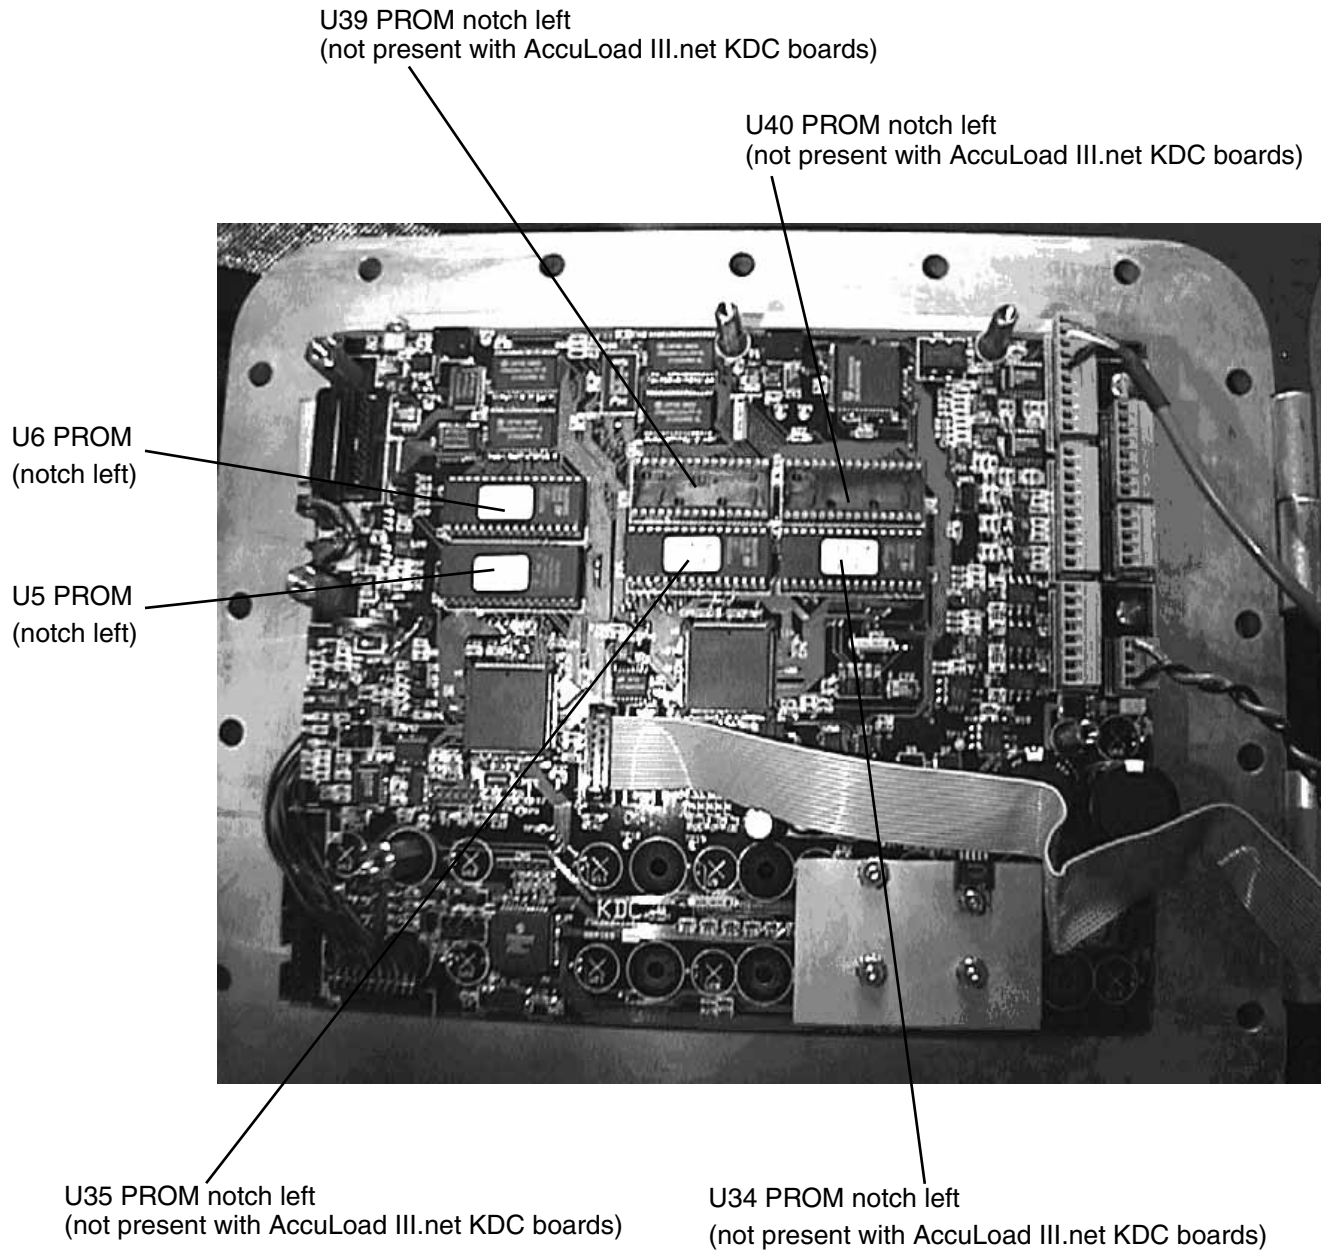
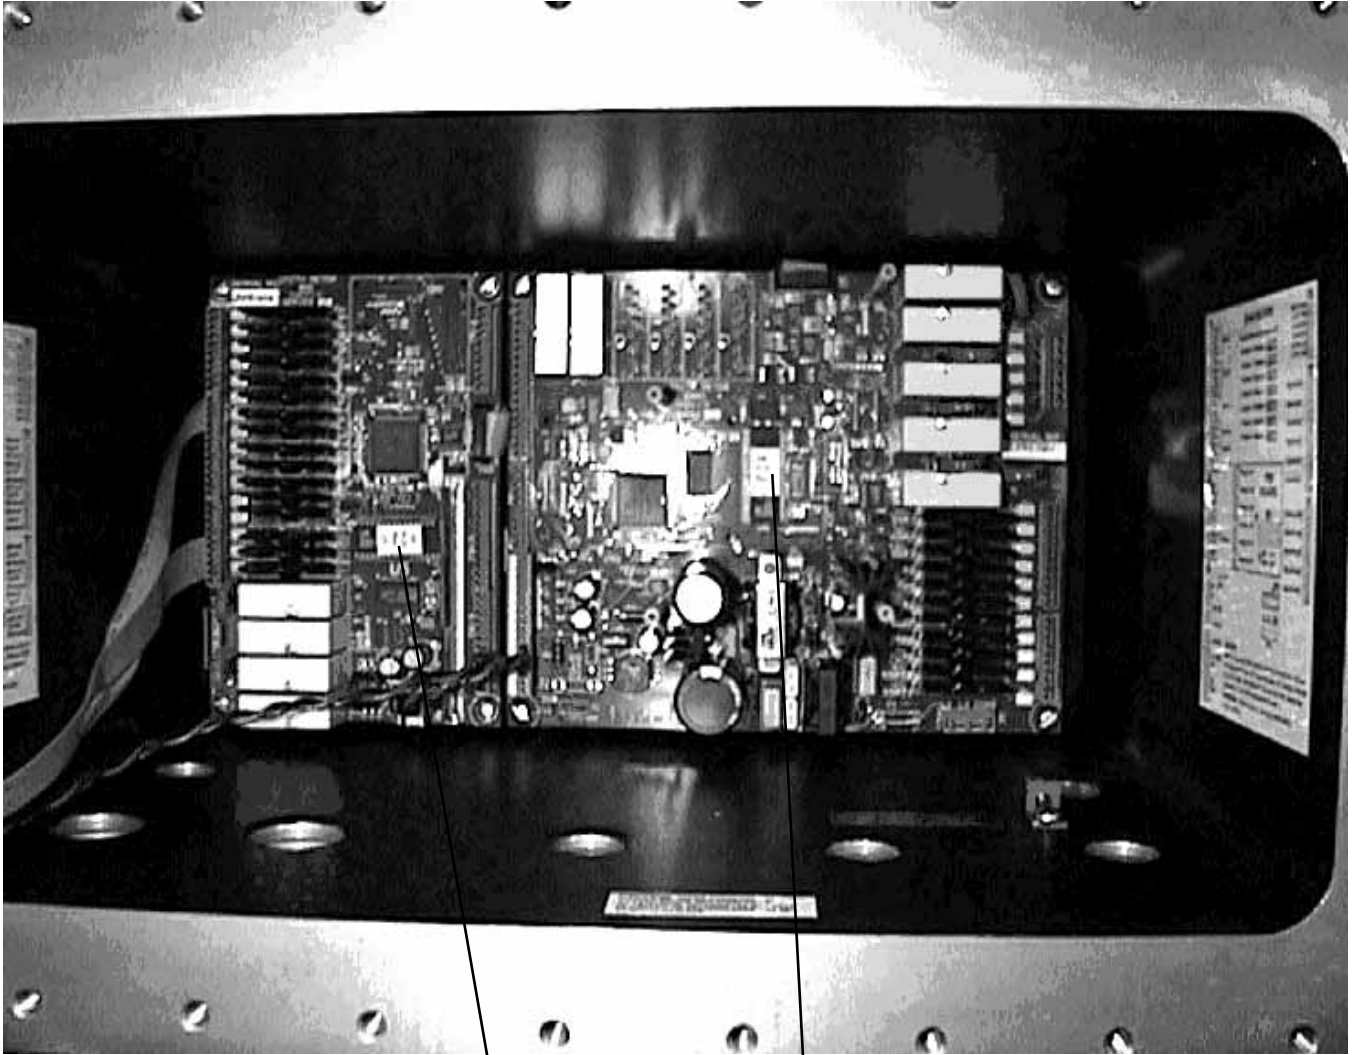

Figure 3. KDC PROMs
Figure 4. EAAI and BSE PROMs
7. Refer to Figure 3 for location of the PROMs on the KDC board and Figure 4 for the location of the PROM on the EAAI board and the BSE board (BSE board on ALIII-Q units only).
9. Install the new PROM in its proper location on the KDC board as shown by the PROM reference number (U5, U6, U34, U35, U39, and U40) on each PROM. (On the KDC.net there will be no U34, U40, U35, or U39 firmware prompts). Ensure that all pins on the PROM are lined up with the socket receptacles, and that pin 1 of the PROM is lined up with pin 1 of its corresponding socket. There will be a notch in the socket to assure proper installation. Referring again to Figure 3, all PROMs (when properly installed) will have their notch facing left on the board where the arrows appear on the picture.
10. Install the new PROM in its proper location on the EAAI board as shown by the PROM reference number (U8) on the PROM. Ensure that all pins on the PROM are lined up with the socket receptacles, and that pin 1 of the PROM is lined up with pin 1 of its corresponding socket. There will be a notch in the socket to assure proper installation. Referring again to Figure 4, the PROM (when properly installed) will have its notch facing up on the board where the arrow appears on the picture.
11. Install the new PROM in its proper location on the BSE board (provided but not used with ALIII-S hardware) as shown by the PROM reference number (U5) on the PROM. Ensure that all pins on the PROM are lined up with the socket receptacles, and that pin 1 of the PROM is lined up with pin 1 of its corresponding socket. There will be a notch in the socket to assure proper installation. Referring again to Figure 4, the PROM (when properly installed) will have its notch facing left on the board where the arrow appears on the picture.
18. The ENTER Passcode Screen will be displayed. Press "0" (X) will be displayed.
Page 7: BSE changed to EAAI on figure 4.